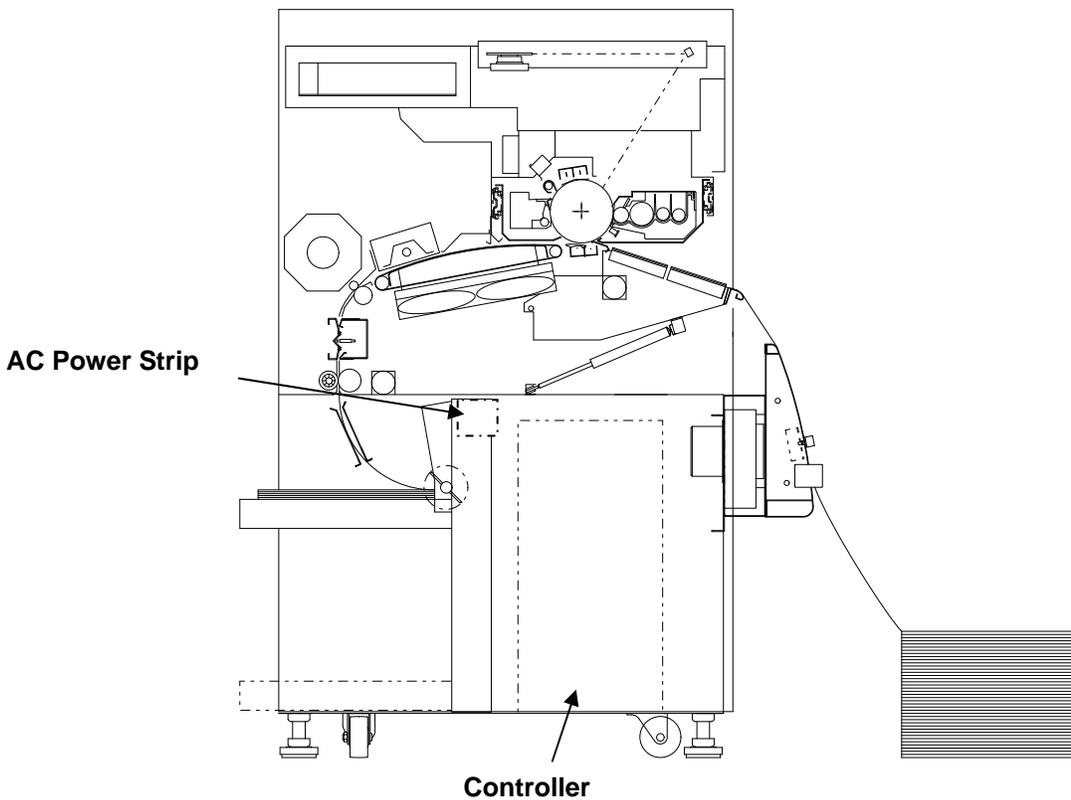

Figure 5-15
3. Position the Controller in the lower cabinet as shown in Figure 5-15.